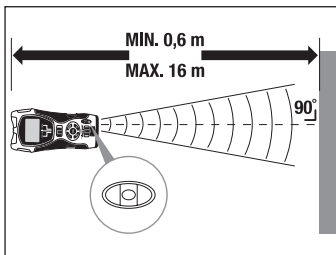

Fig. 1
- Hold the appliance upright towards the wall to which you wish to measure the distance. The ultrasound sender/receiver 10 must be at a right-angle to the wall. For this, use the spirit level: The bubble in the glass 8 must stand between the marking lines (see Fig. 1).
The further you are from the wall, the wider is the area (a) that the Multi-Measurement Detector must measure by ultrasound (Fig. 2). Therefore take care that the Manifold Measurer is always directed at a right angle towards a level surface (Fig. 1 and 3). Ensure that there are no objects positioned within the measurement area.